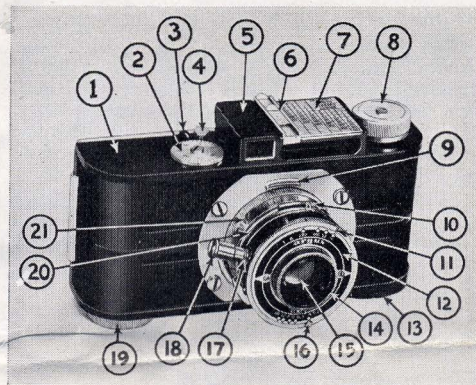

FIGURE 1
7. After the back is in place the film must be advanced until a new exposure is in correct place behind the lens. This is accomplished by turning the winding knob (8) in the direction of the arrow until a click is heard or the film counter dial (2), figure 1 stops rotating. Depress the counter dial release (4) momentarily while advancing the film and advance one full rotation of the counter dial. Repeat this operation twice. At this point unexposed film is in correct exposure position for the first picture. The counter dial (2) should now be rotated in a counter-clockwise direction with right thumb until the zero figure is opposite the counter dial indicator (3). The counter dial is held in place by a friction arrangement and a firm pressure is necessary to set the dial.
8. After the first picture is taken the film should be advanced at once to form a habit of preventing double exposure or blank frames. When the film is advanced one frame the counter dial advances nearly a full revolution and will stop opposite figure 1 indicating the number of exposures made.